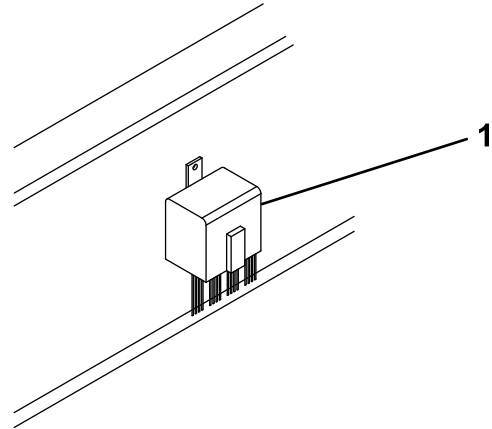

Figure 23
- 29. Mount the relay pack to the inside of the engine compartment using a sheet-metal screw (Figure 23).